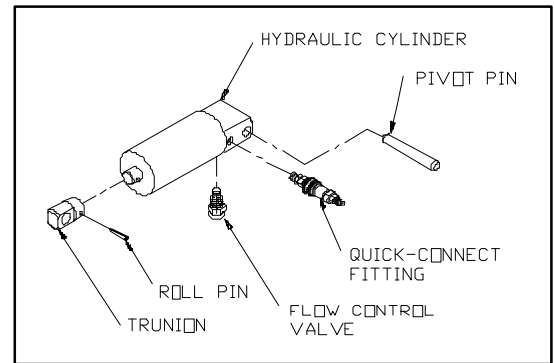

FIGURE 4-13: HYDRAULIC CYLINDER
- 3) Refer to **Figure 4-13**. Remove 0.25" dia rollpin fastening trunnion to end of hydraulic cylinder rod by driving pin out with a small drift and hammer.